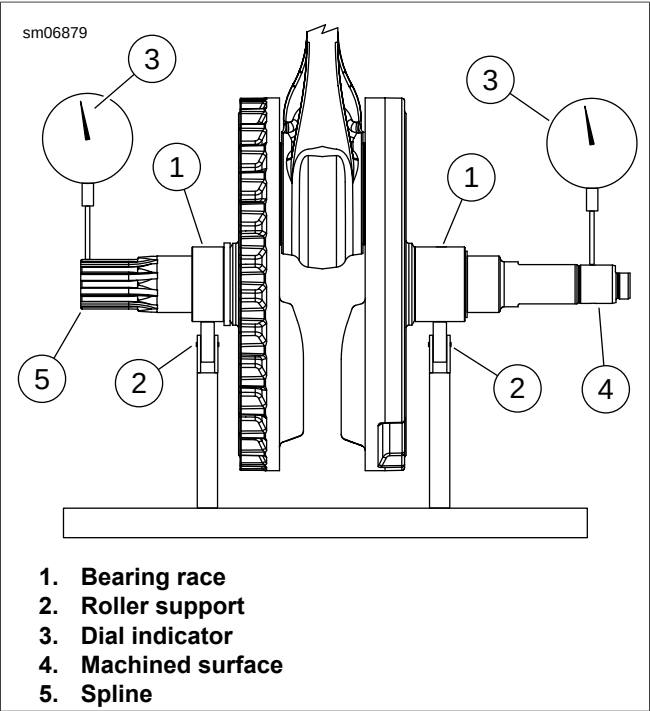

Figure 3-149. Checking Crankshaft Runout
1. See Figure 3-149. Mount crankshaft in truing stand so it is supported on the bearing races (1) by the roller supports (2).